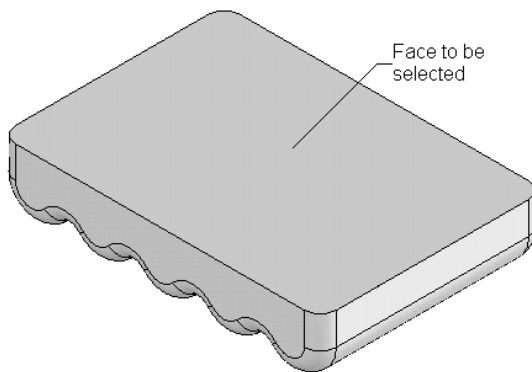

Figure 9-45 Face to be selected
- Add the shell feature to the model and remove the top face of the base feature, refer to Figures 9-45 and 9-46.
2. Select the top planar face of the model, as shown in Figure 9-45.